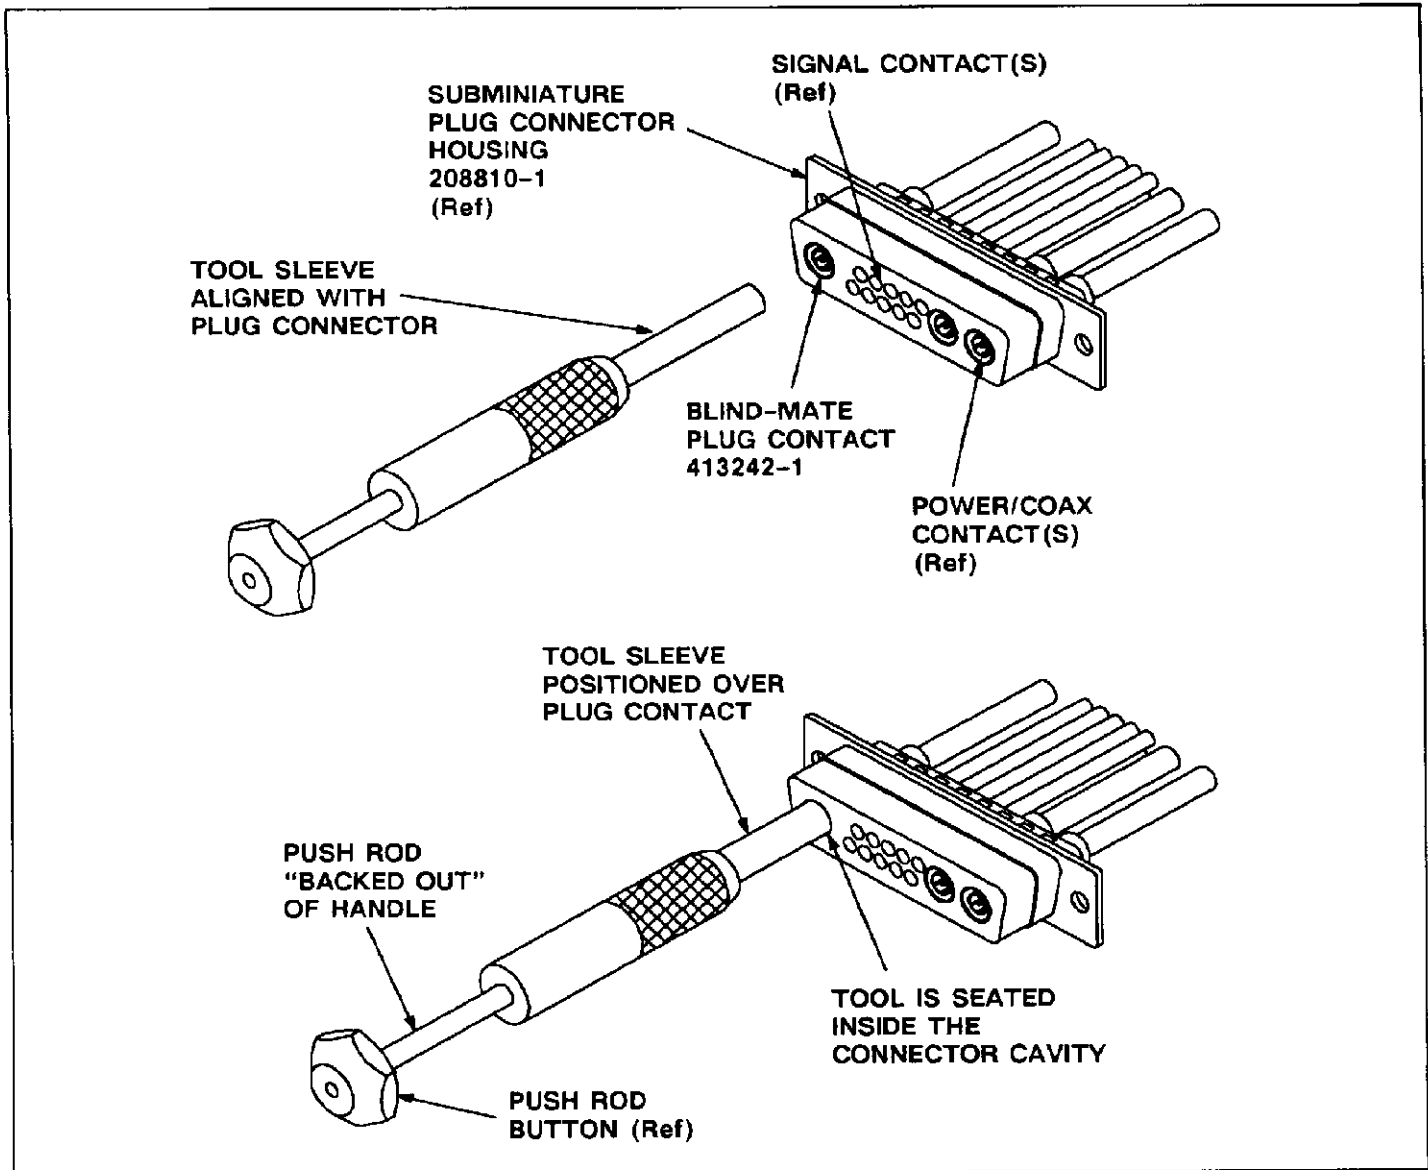

Fig. 2
1. Align the sleeve of the tool with the connector as shown in Figure 2.